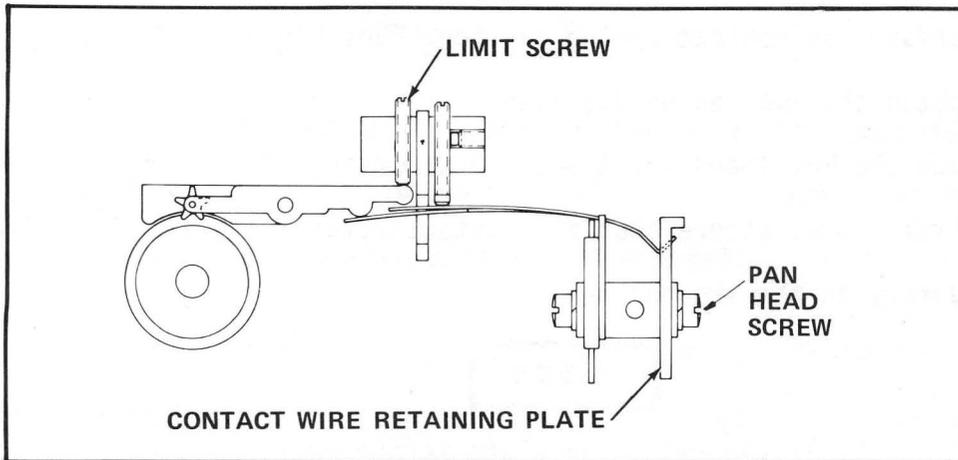
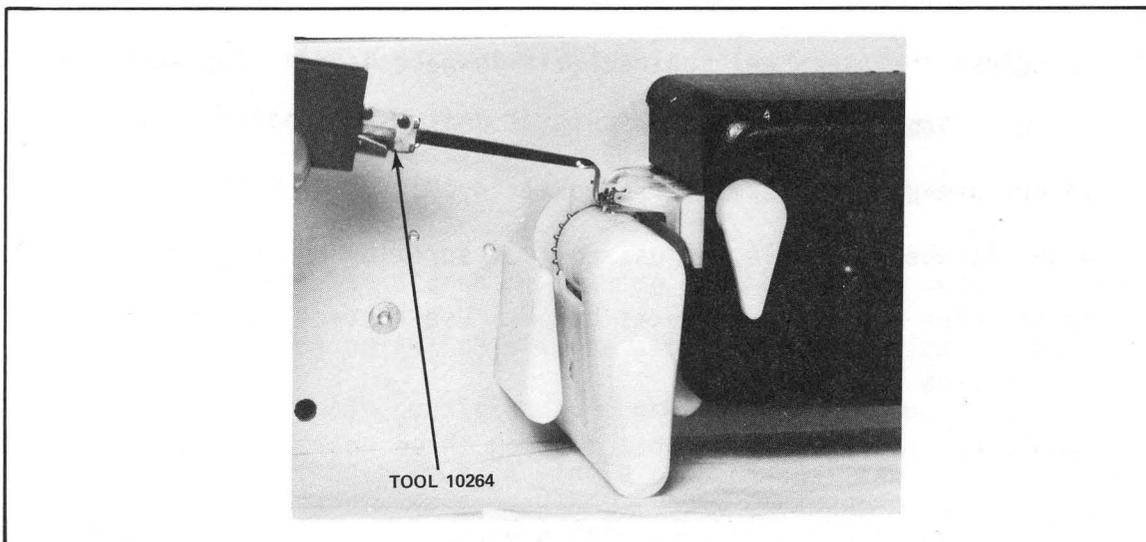

Figure 6-19 Starwheel Arm Adjustment
Figure 6-20 Starwheel Arm Spring Tension Adjustment
arms 2 through 7, the clearance can be equalized. Use 0.035" hex driver (see Table 7-1). See Figure 6-19.
(1) The starwheel arm spring tension is obtained by raising or lowering the contact wire retaining plate. See Figure 6-19. The retaining plate is adjusted so that 25 grams applied under the starwheel arm at the pivot of the starwheel will not break continuity between the common input and the starwheel contact wire. Applying 30 - 35 grams at the same point will raise the starwheel arm and break the circuit. See Figure 6-20.
- (2) To change spring tension, loosen the two pan head screws. A slight change in the position of the retainer plate will greatly increase or decrease the contact spring tension. See Figure 6-19.
- (3) Tighten the two pan head screws.
- (4) Check the No. 1 and No. 8 positions for specified tension. If adjustment is made, assure that the contact retaining plate is positioned squarely in the sensing head.